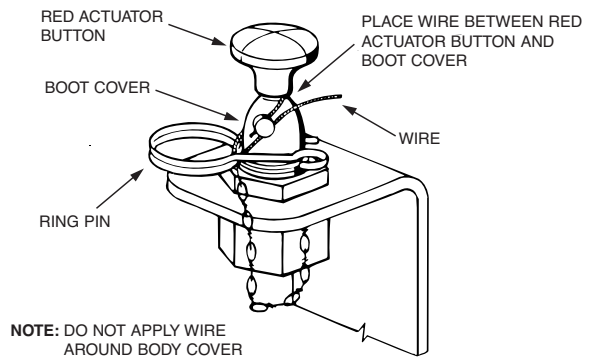

FIGURE 23
7. Seal ring pin to actuator stem with visual inspection seal, Part No. 197. Make certain visual inspection seal is looped through ring pin and around actuator stem. Do not wrap seal around the boot cover. See Figure 23.